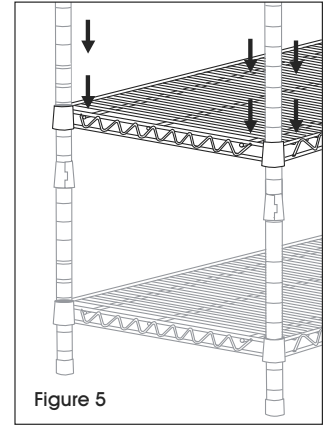

Figure 5
- Determine the height of the next shelf, snap on shelf supports, then add and secure shelf. Repeat this step to add remaining shelves. (See Figure 5)